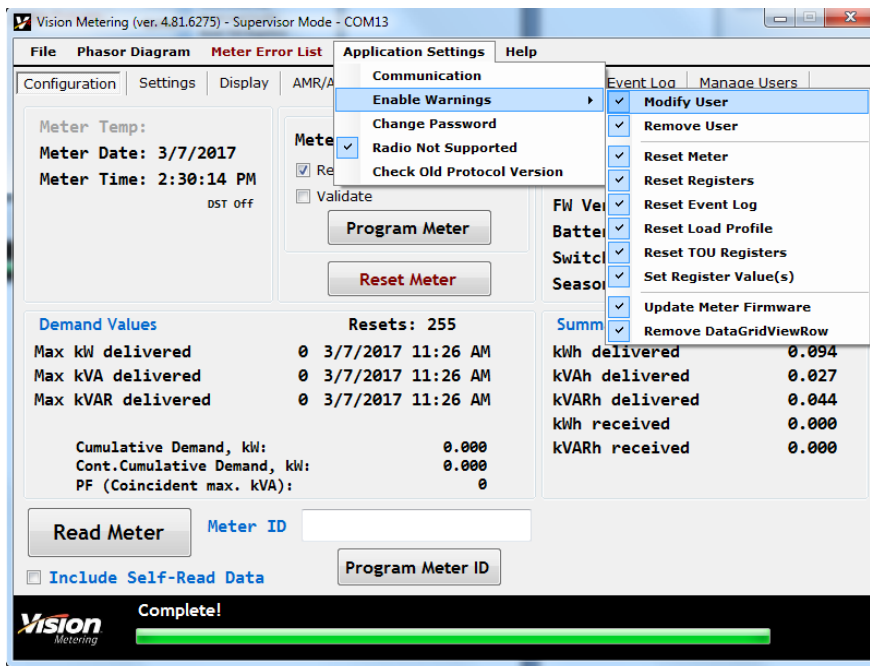

Figure 6
- The **Help** tab allows user to select *About* or *Help*. By clicking on the **Help** tab, it is possible to select **Shortcut Keys**. **Shortcut Keys** are provided to help expedite routine tasks through macros bound to user selectable keys, as shown in **Figure 6**.
Located in the **Application Settings** tab of the task bar as shown in **Figure 6**, it is possible to enable warning messages when performing certain functions in Vision 20/20.
Located in the **Application Settings** tab, shown in **Figure 6**, is the **Check Old Protocol Version** option. If the meter being programmed has firmware newer than version 4.0, this option may be unselected to speed up the programming process. If an attempt is made to read a meter without **Check Old Protocol Version** enabled and the meter has firmware older than 4.0, the meter will not be read and will not give any errors for read failure.